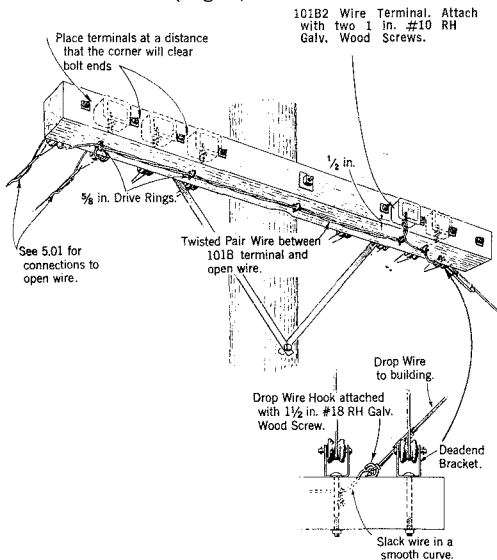

Fig. 4 — Wiring Arrangement on DE Crossarms Not Having Back Braces
4.11 Crossarms Equipped with Deadend Brackets (Fig. 4).
4.13 At double crossarms equipped with dead-end brackets, follow the general wiring method shown in Fig. 4, locating the 101B2 terminal on the outer side of the crossarm not equipped with deadend brackets. Locate the wire run on the underside of the same crossarm.